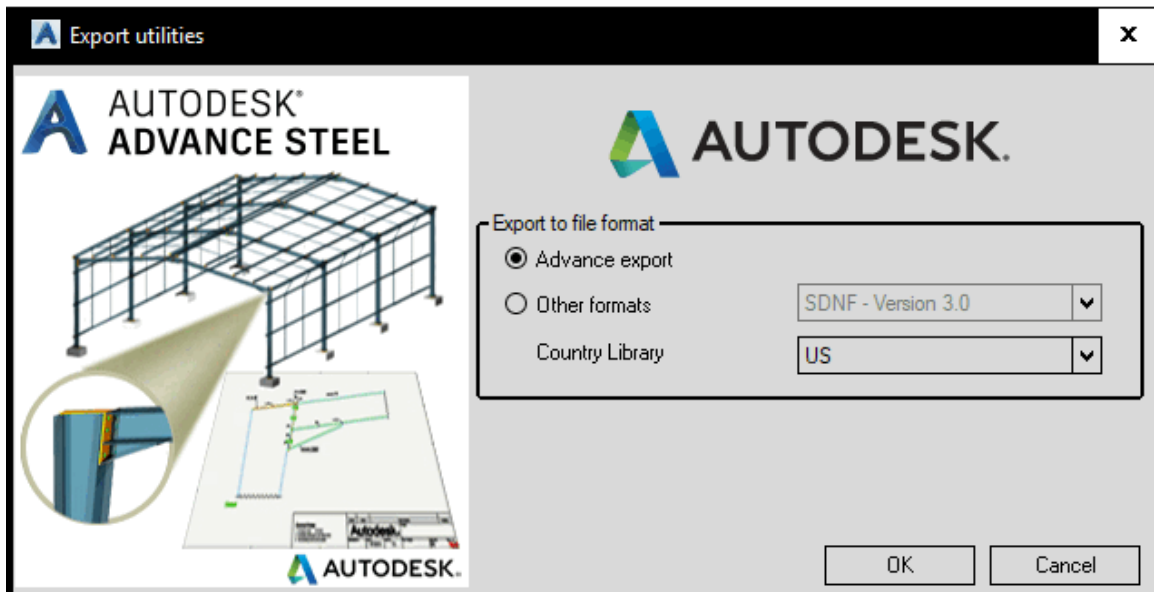

FIGURE 7: THE **EXPORT UTILITIES** DIALOG BOX
4. From the **Add-Ins** tab > **Advance Steel Extension** flyout, click **Export**; the **Export utilities** dialog box is displayed, as shown in Figure 7.